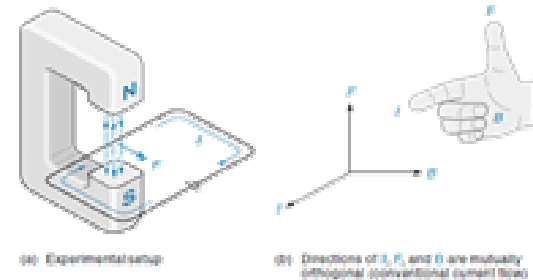

Figure 3.1 Action of force on a wire in a magnetic field.
- Applying the force diagram from Figure 3.1(b), we see that wire segment A of the coil would be forced up, whereas wire segment B would be forced down. These forces would cause the coil to rotate clockwise.